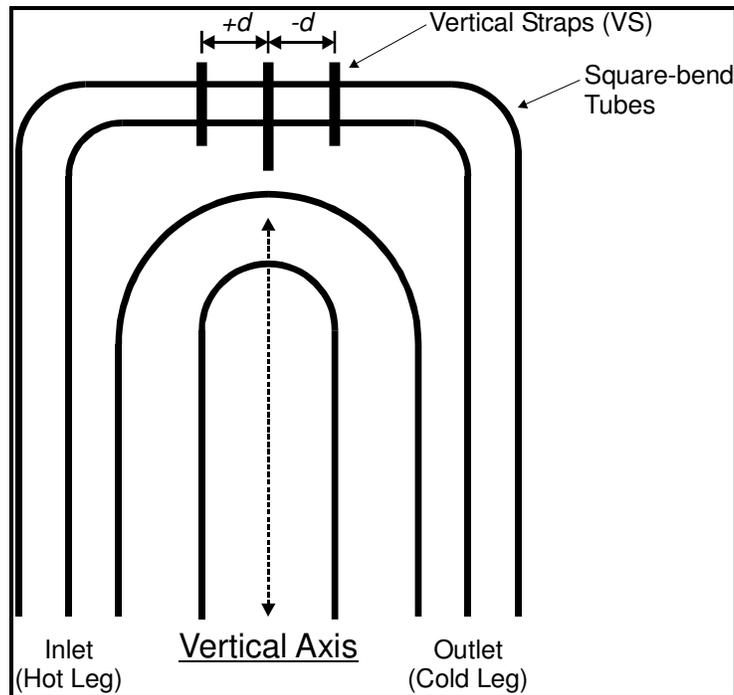

Figure 32. Determining Location Values for Vertical Straps in a Landmark Table
Vertical straps toward the inlet (hot) leg are positive values while those toward the outlet (hot) leg are negative values. See Figure 32 for clarification.
- **First Square Ubend:** Enter the first row where the tubes change from normal U-bends to square-bends. Figure 32 points out the concept of square-bend tubes. If these types of tubes do not exist in the component, set this field to a large number, i.e., 999 (*default*). In addition, if **Has Ubends** on the **Parameters** tab is disabled, this field will be ignored.